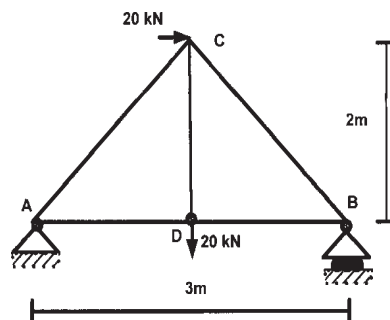

Fig. 2.b
- b) Using Flexibility or Stiffness method, analyze the truss shown in the Fig. 2.b. Find the joint displacements, support reactions, bar forces and bar elongations. Take  $AE = 5000 \text{ kN}$  for all the bars. [12]